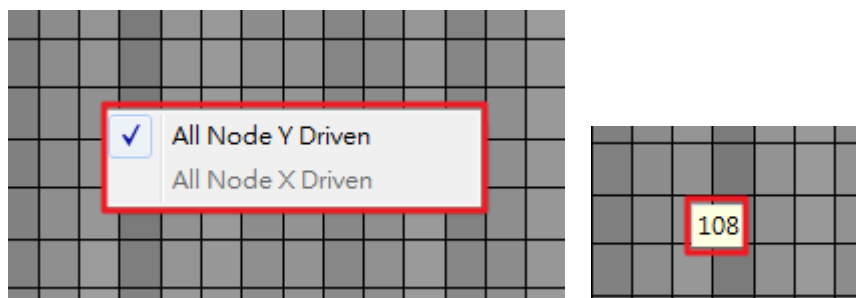

Figure 6-6: Data Selection
Step 2: When right-click on chart, you can select different type driven data. Unsupported data are shown in gray (Figure 6-6 left) . If the channel of panel is over a certain size, the value will be hidden. Just move cursor to the top of the node, the value will be shown (Figure 6-6 right) .